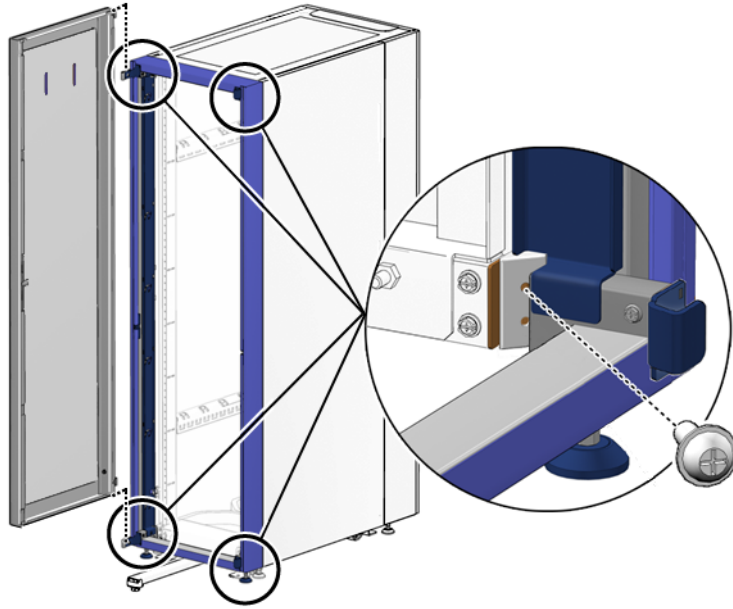

FIGURE 4-7 Installing the Cabinet Extension
10. Position the cabinet extension over all four gold hinge pins and lift the cabinet extension into place (FIGURE 4-7).
13. Position the silver alloy door over the two hinge pins and lift the door onto the cabinet extension (FIGURE 4-7).